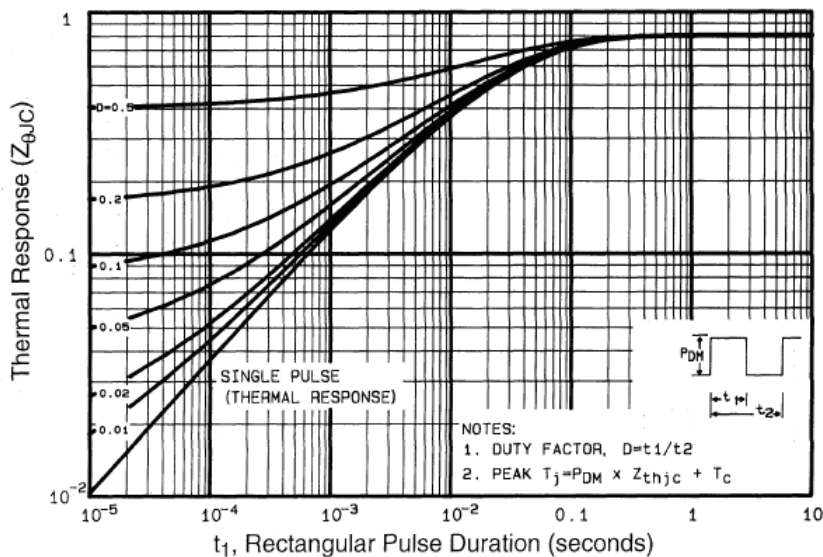

Fig. 11 - Maximum Effective Transient Thermal Impedance, Junction-to-Case
b. Repetitive rating; pulse width limited by maximum junction temperature (see fig. 11)
- a. Repetitive rating; pulse width limited by maximum junction temperature (see fig. 11)